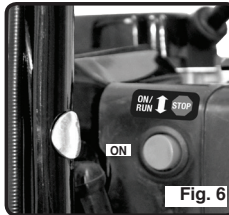

Fig. 6
2. Move the ignition switch to the "on" position. (See Figure 6)
2. Move the ignition switch to the 'stop' position. (See Figure 6)